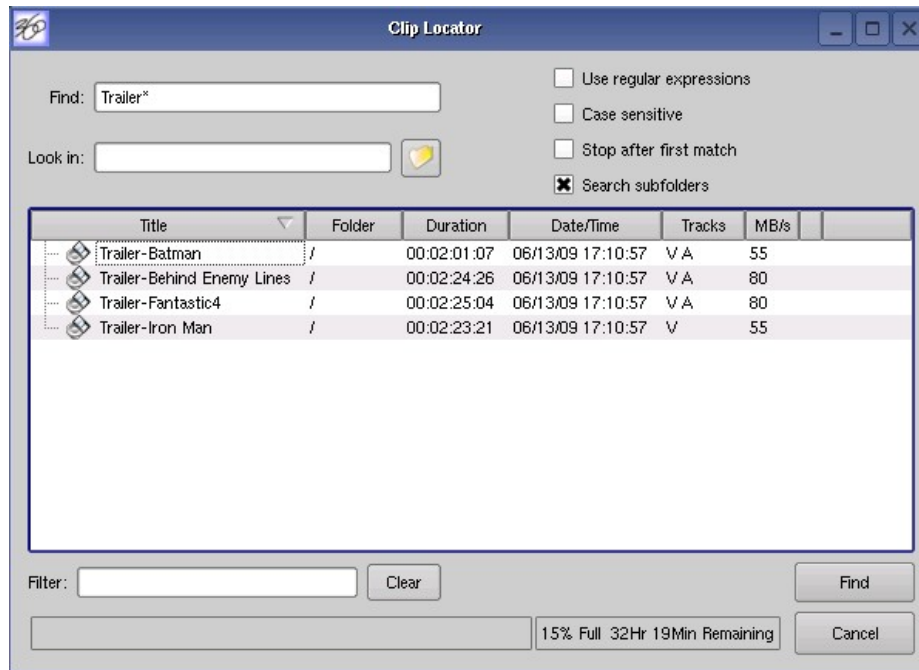

Figure 21 - Clip Locator
1. Click **SHOW>FIND CLIPS**. The Clip Locator screen of **Figure 21 - Clip Locator** appears.